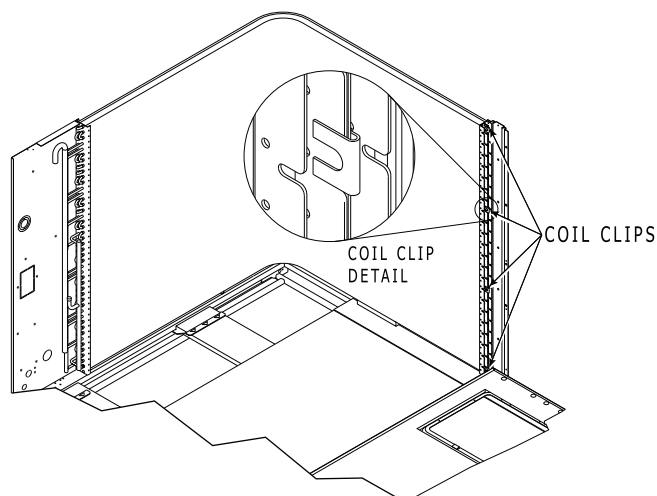

Fig. 23 — Condenser Coil Clips
5. Remove the screws from both sides of the 4 coil retaining clips on the hairpin end of the coil tube sheets. See Fig. 23.